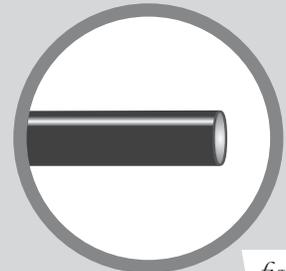

fig. C.3
When cutting air lines, use a sharp knife or a hose cutter and make clean, square cuts (Fig. C.3). Do not use scissors or wire cutters because these tools may deform the air line, causing it to leak around fittings. Do not cut the lines at an angle.
- a. Check the air line connection by deflating the spring and removing the line by pulling the collar against the fitting and pulling firmly on the air line. Trim 1" off the end of the air line. Be sure the cut is clean and square (see Fig. C.3). Reinsert the air line into the push-to-connect fitting.